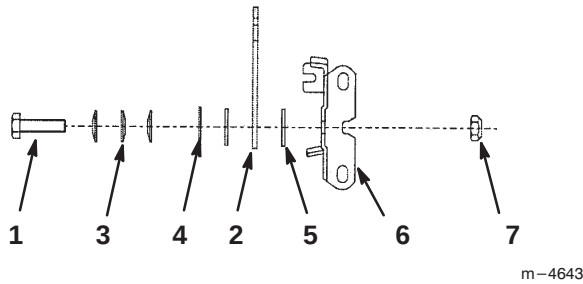

Figure 44
3. Tighten nut and bolt. Test lever to your desired tension (Fig. 44).